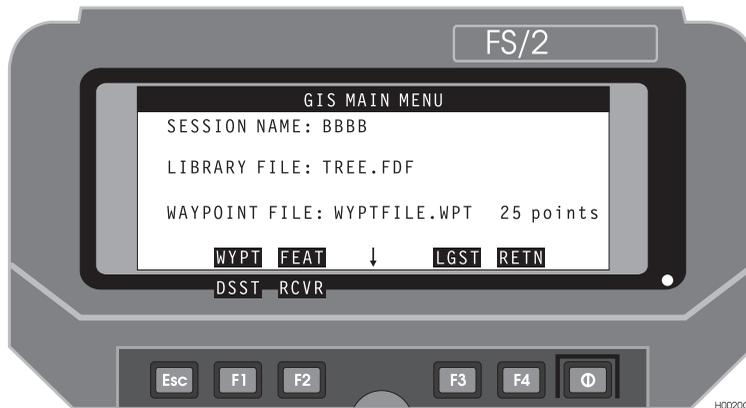

Figure 3.26: GIS Main Menu
1. From the FAMlog screen, press **F3 (GIS)** to call the GIS Main Menu, Figure 3.26.